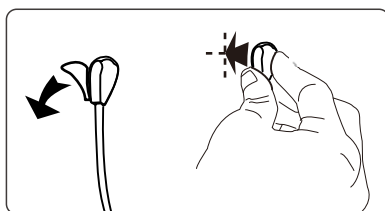

Figure 22
3. Tear off the glue at the back of the receiver and put it at anywhere where IR signal is available (Figure 22). (Note: Make sure the glue surface is clean)